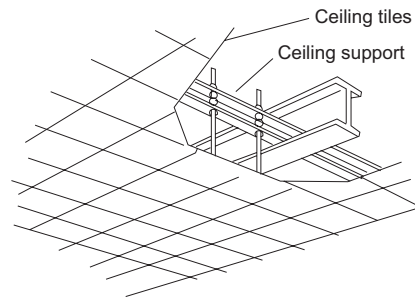

Fig. 1-22
- Use existing ceiling supports or construct a suitable support as shown in Fig. 1-22.